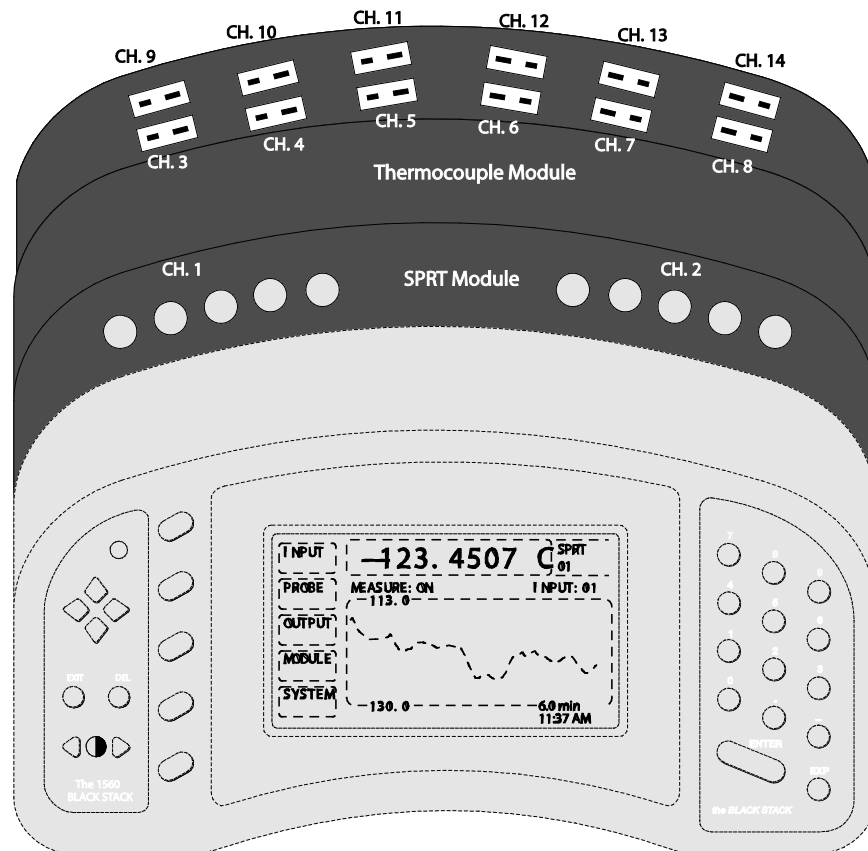

Figure 7. Channel Numbering
*Channel numbers are assigned to input channels according to their physical locations. They are not marked on modules since the locations may change depending on how modules are attached. Channel numbers are assigned in sequence, starting with 1, from left to right, front to back. The left-most channel on the first module is channel 1, the next channel on the right is channel 2, etc. The sequence continues with the next module in the same fashion (see Figure 7). Output channel numbers are assigned using the same scheme.*